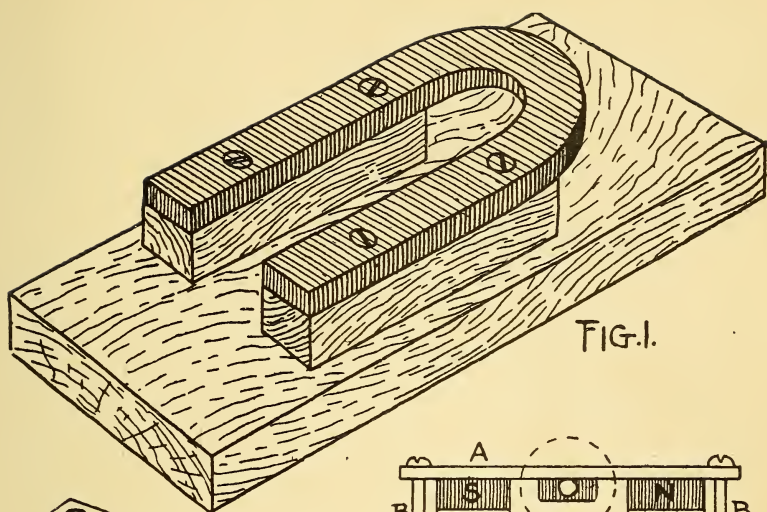
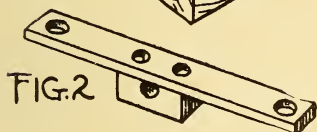
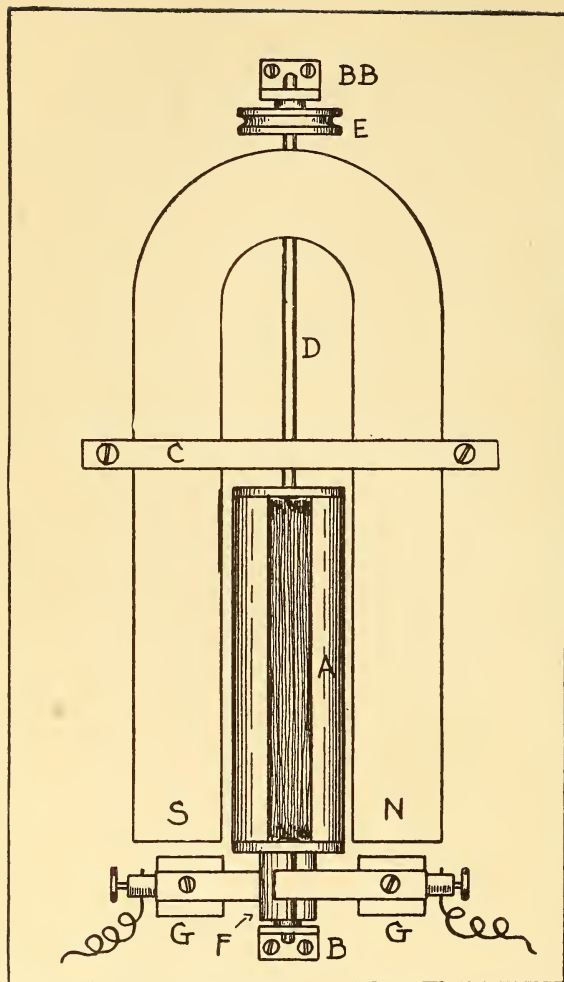
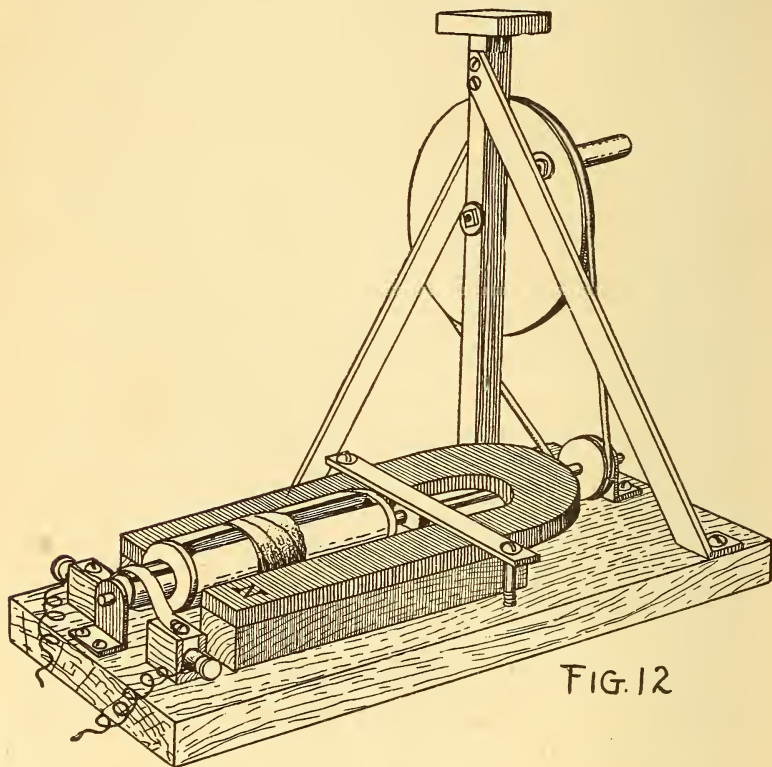

FIG. 1.
FIG. 2.
FIG. 10.
FIG. 12
Before the steel is tempered there should be four holes bored in the magnet and countersunk, so that screws may be passed through it and into the wooden base below, as shown at Fig. 1. This wooden base is fourteen inches long, eight inches wide, and one inch in thickness. It may be made of pine, white-wood, birch, or any good dry wood that may be at hand. The blocks on which the magnet rests are an inch and a quarter square and seven inches long. The magnet is mounted directly in the middle of the base, an equal distance from both edges and ends, as shown in the plan drawing (Fig. 10). The blocks are attached with glue and brass screws driven up from the underside of the base.
one-eighth of an inch thick cut a piece six inches long, and bore holes at either end through which long, slim, oval-headed brass screws may pass. Use brass, copper, or German-silver for this bar, and not iron or steel. To the underside, and at the middle, solder or screw fast a small block of brass, through which a hole is to be bored for the spindle or shaft. This finished bar is shown in Fig. 2. When mounted over the magnet and held down with brass screws driven into the wood base, its end view will appear as shown in Fig. 3, A being the bar, B B the screws which hold it down, D the base into which they are driven, and C C the blocks under the magnet (N S). The object of this bar is to support one end of the armature shaft. From brass one-eighth of an inch thick bend and form two angles, as shown at Fig. 4. Two holes for screws are to be drilled in the part that rests on the base, and one hole, for the shaft to pass through, is bored near the top of the upright plate. The centre of this last hole must be the same height from the base as is the hole in the bar (Fig. 2) when mounted over the magnet, as shown at Fig. 3. The location of these plates is shown in the plan (Fig. 10). There is one plate at each end of the base, as indicated at B and B B, the shaft passing through the hole in the brass block at the underside of the bar (C). These angles are the end-bearings for the armature shaft, and should be accurately centred so that the armature will be properly centred between the N and S bars of the magnet.
hack-saw cut the tube across in two opposite places, so that you will have the cylinder with two half-circular shells or commutators screwed fast to it, as shown at Fig. 7. This hub will fit over the shaft at the front end of the armature, and will occupy the position shown at F in Fig. 10.
From boxwood or maple have a small wooden pulley turned, with a groove in it and a quarter-inch hole through the centre. This pulley should be half an inch wide and one inch and a half in diameter, as shown at Fig. 9. This is to be attached at the end of the long shaft, where it will occupy the position shown at E in Fig. 10.
By following the plan in Fig. 10, it will be an easy matter to put the parts together; when they are assembled the complete machine will appear as shown in the drawing (Fig. 12).